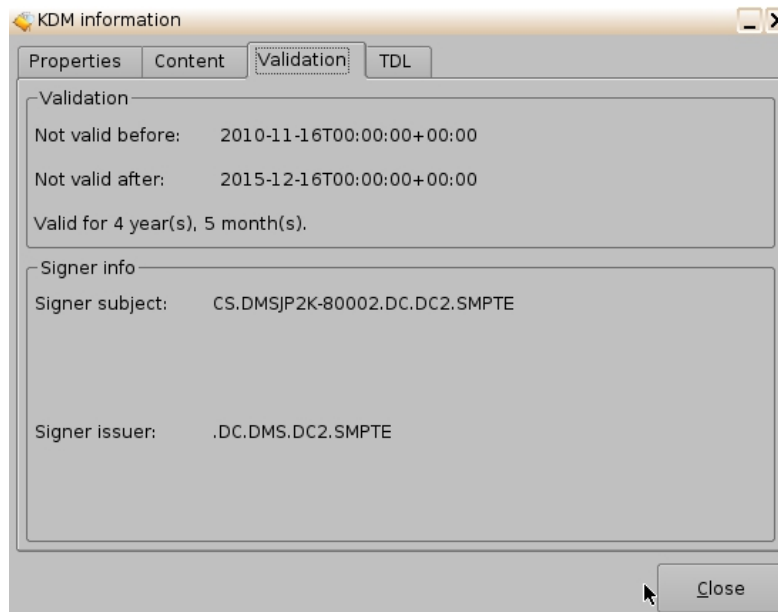

Figure 74: KDM Information Pop-Up Window
- The Validation tab contains precise information about the date and time of the validity of the KDM, an approximation of the period for which the KDM is valid as well as Signer information (subject and issuer). See Figure 74 below.